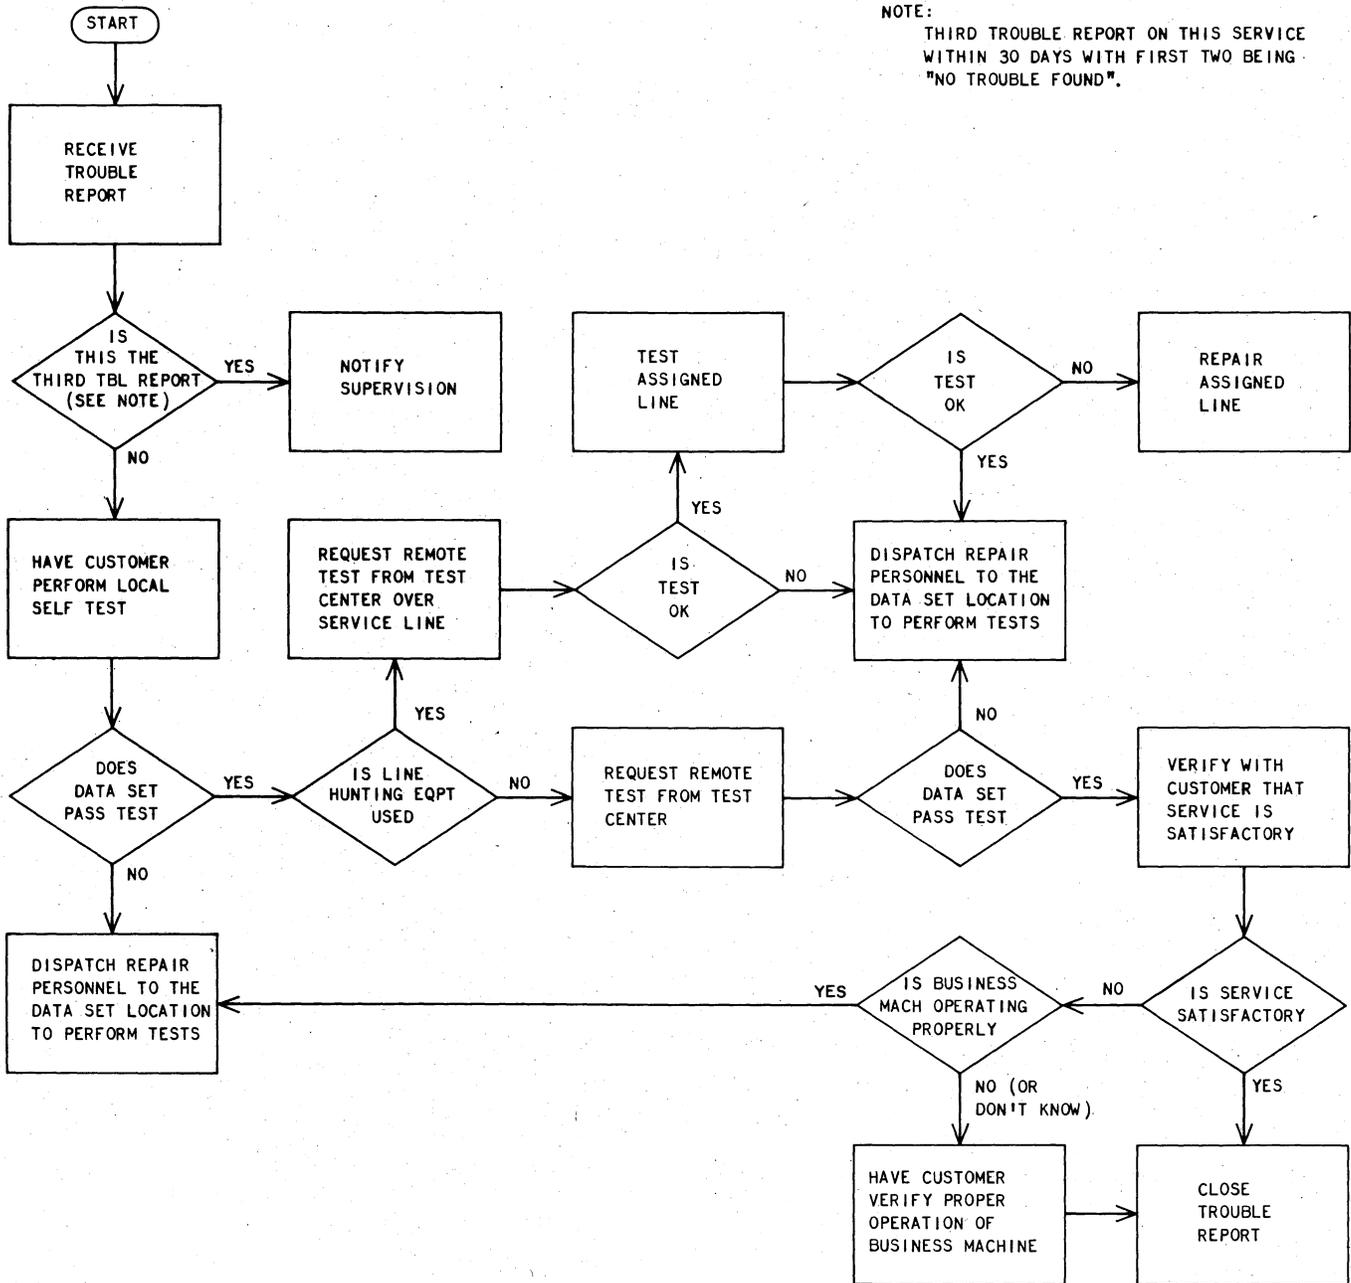

Fig. 1—Maintenance Flowchart for 202S Data Stations
2.01 Follow the sequence given in Fig. 1 and the procedures given in Section 592-860-500 when investigating and clearing a trouble report. Table A can be used to evaluate the trouble symptoms and may give the person clearing the trouble an indication of where and what the problem is.